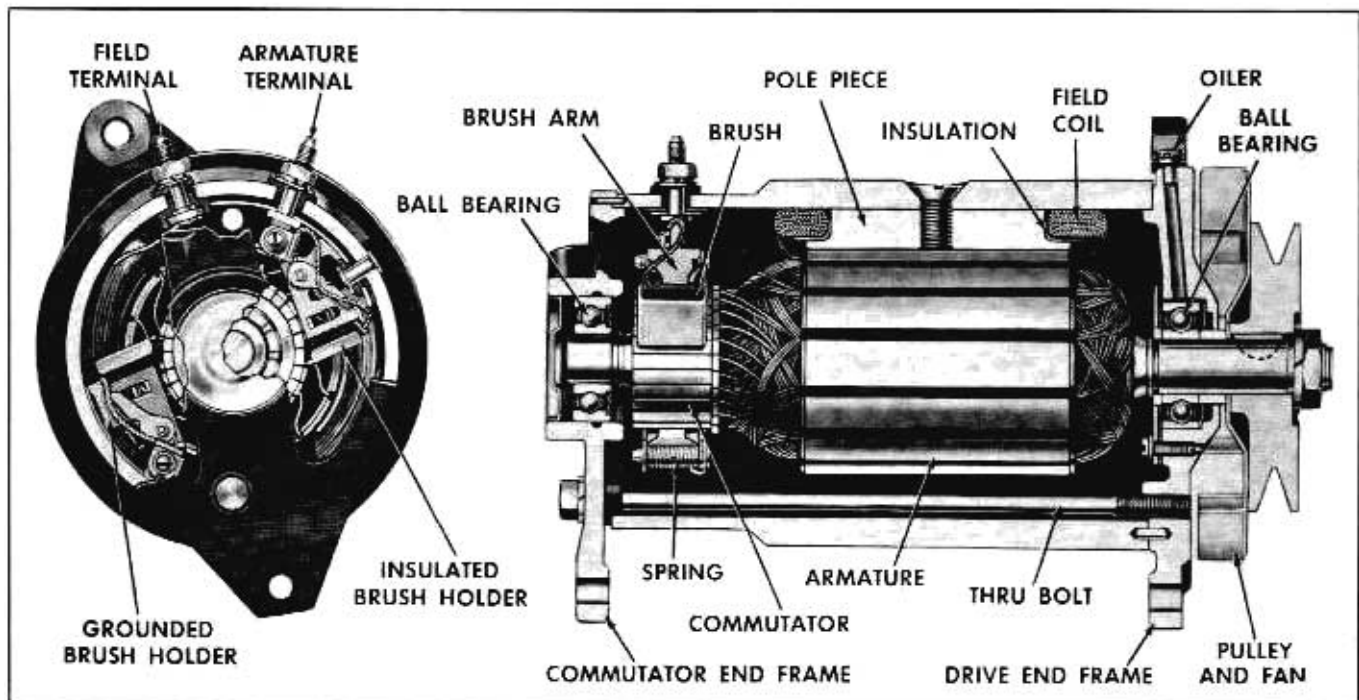

Fig. 11-6 Cross Section of Generator
The 30 amp generator (Fig. 11-6) is a Delco-Remy 12 volt, two brush unit with shunt windings. The armature is supported at both ends with ball bearings. The drive end has a lubricated bearing with an oiler and passage for lubrication while the commutator end is a pre-packed bearing with an oil slinger and no oiler or passage. The standard three-unit regulator is used to control its output to a safe limit.
2. Remove two through bolts, and remove commutator end frame assembly (Figure 11-6).